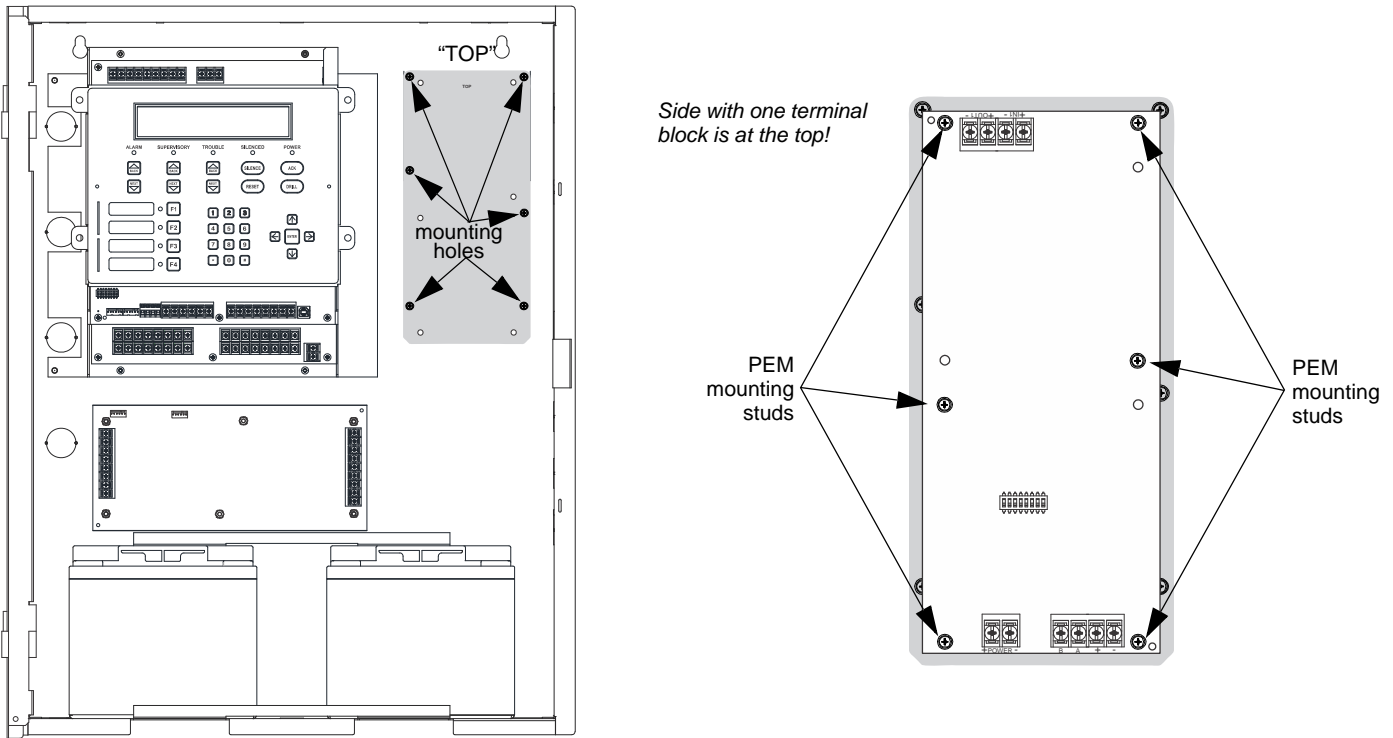

Figure 2 ECS-INT50W Installed in Cabinet using ECS-AMPMT
1. Mount the ECS-AMPMT plate into the cabinet using the six supplied screws. Orient with “Top” side up. See Figure 2 below.